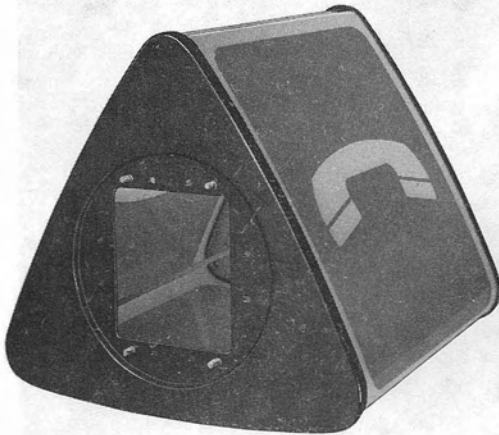
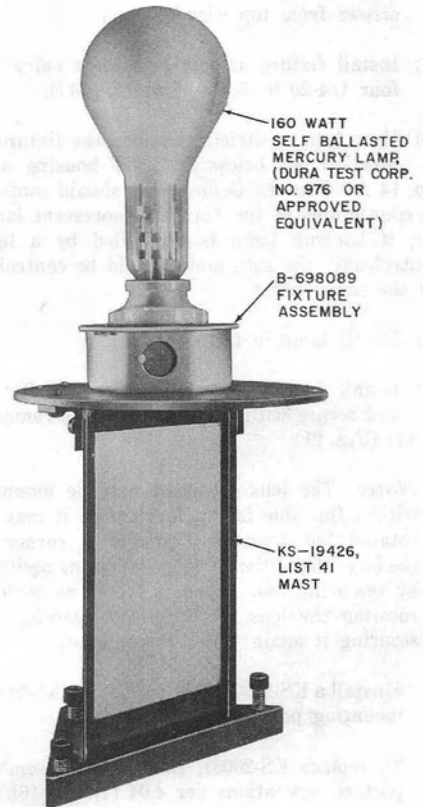
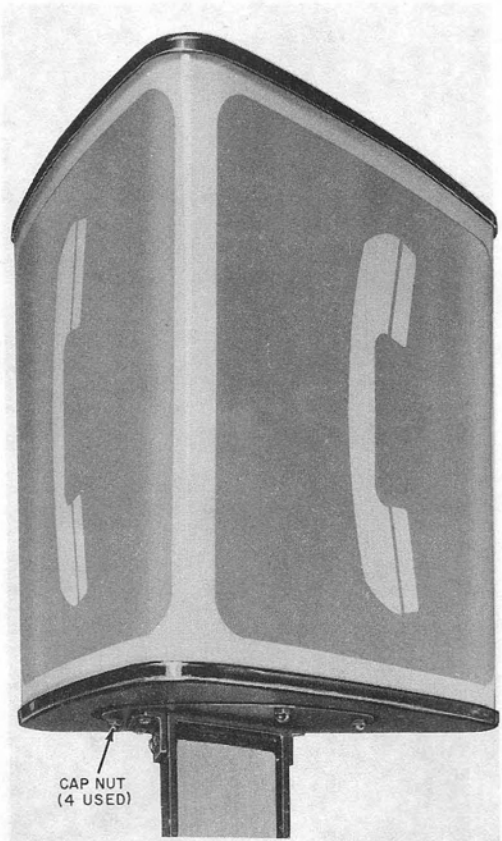

Fig. 16—KS-20031, List 2 Lens Assembly—Bottom View
Fig. 17—Fixture and Lamp—Component of KS-20031 Signs
Fig. 21—Mounting Hardware for KS-20031, List 1 Sign Mounted on KS-19426, List 39, 40 or 41 Mast
- (a) Consists of a KS-20031, List 2 polycarbonate plastic lens assembly (Fig. 16) and fixture assembly (Fig. 17).
Note: The List 2 lens assembly (Fig. 16) must be removed from the fixture assembly (Fig. 17) before installation.
- (1) Remove four cap nuts which secure lens to base.
- (2) Remove four 1/4-20 by 5/8 Phillips RHM screws from top edge of mast.
- (3) Install fixture assembly to mast using the four 1/4-20 by 5/8 screws (Fig. 17).
- (4) Have local electrician connect the fixture to junction box below KS-19426 housing with No. 14 AWG wire. Connections should conform to connections of the housing fluorescent lamp, **⚡**; if housing lamp is controlled by a light control unit, the sign lamp should be controlled by the same unit. **⚡**
- (5) Install lamp in fixture.
- (6) Install List 2 lens assembly over fixture and secure with the four cap nuts removed in (1) (Fig. 21).